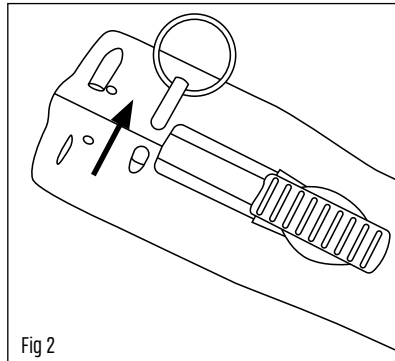

Fig 2
**2. SAFETY PIN REMOVAL** - Remove the Safety Pin before using the LifeLite™. The Safety Pin has been installed as safety against accidental firing. The Safety Pin should remain in place when storing or transporting the LifeLite™ and not when staging for defensive use. (Fig 2)